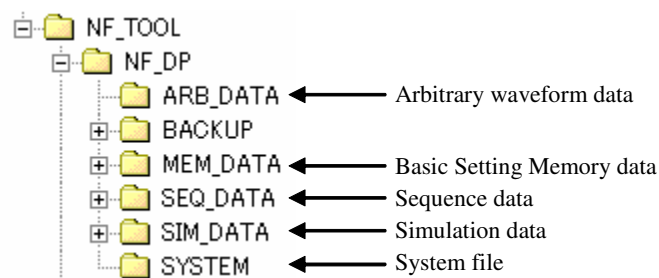

Figure 4-23 USB Memory Folder Structure
The root folder of the USB memory should have folders as shown in Figure 4-23. Otherwise, these folders are created automatically when the USB memory is connected to this product.
- The BACKUP and SYSTEM folders in Figure 4-23 are not used by the users. Do not delete these folders and files in them, as they are used for firmware updating of this product and other purposes.